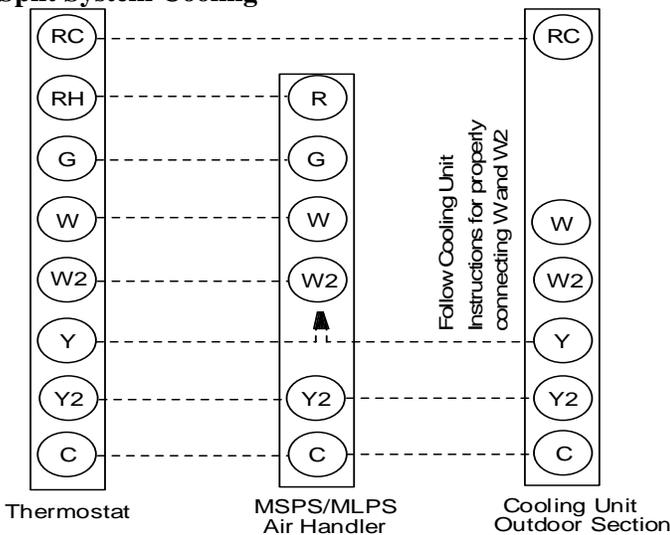

Figure 27: Typical Two Stage Heat with Two Stage Package Cooling Unit
4. Remove the two screws on the right side and the two screws on the left side of the blower mounting plate. Refer to Figure 27 for screw locations.
7. Remove the blower motor from the blower housing by removing the three (3) screws on the sides of the housing that secure the blower to the housing
8. Place the motor into the housing so the mount leg holes line up with the rivet nuts in the housing. Place the three (3) screws into the mount leg holes and tighten until the mount legs are securely fastened to the housing.